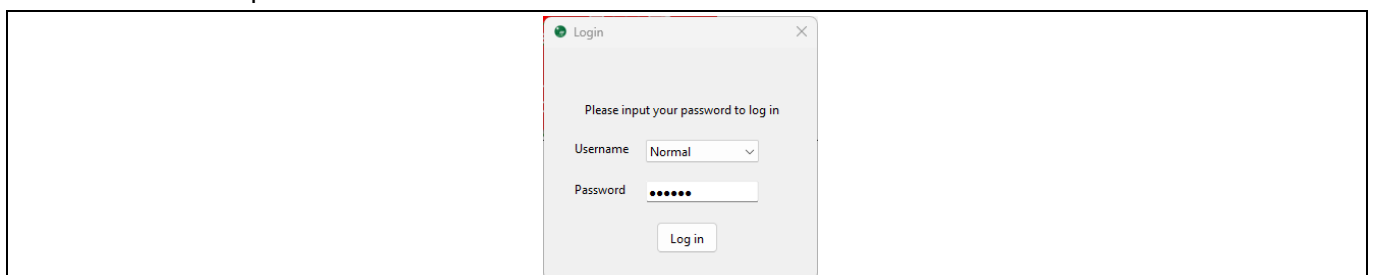

Figure 39 Login window for HERIC Debugger GUI
4. Launch the HERIC Debugger GUI on PC. A login window will appear (Figure 39). Select Normal mode and key in 123456 as the password.